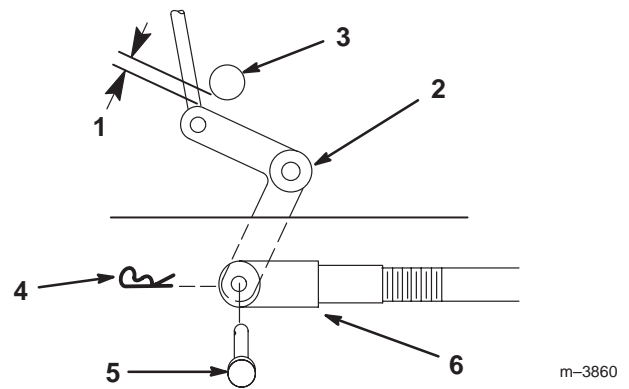
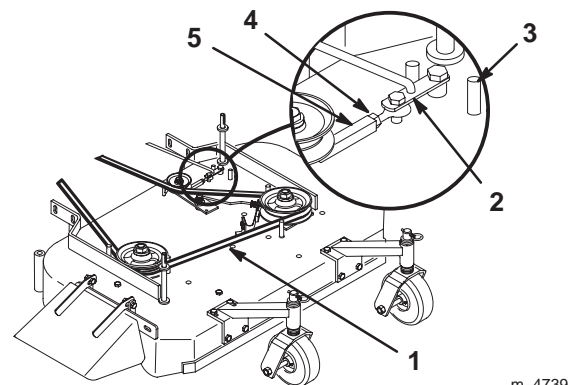

Figure 49
Figure 50
- Check the clearance between the bell crank and the transmission output shaft (Fig. 49).
- Rotate the clevis clockwise on the rod to increase the clearance; rotate it counterclockwise to decrease it (Fig. 49).
Note: If the assist arm does not contact the front stop on the mower deck (Fig. 50), adjust the clevis to bring the bell crank closer to the transmission output shaft (Fig. 49).
3. Loosen the locknut on the turnbuckle (Fig. 50).
4. Rotate the turnbuckle toward the rear of the mower to increase the tension on the belt. Rotate the turnbuckle toward the front of the mower to decrease the tension on the belt (Fig. 50).